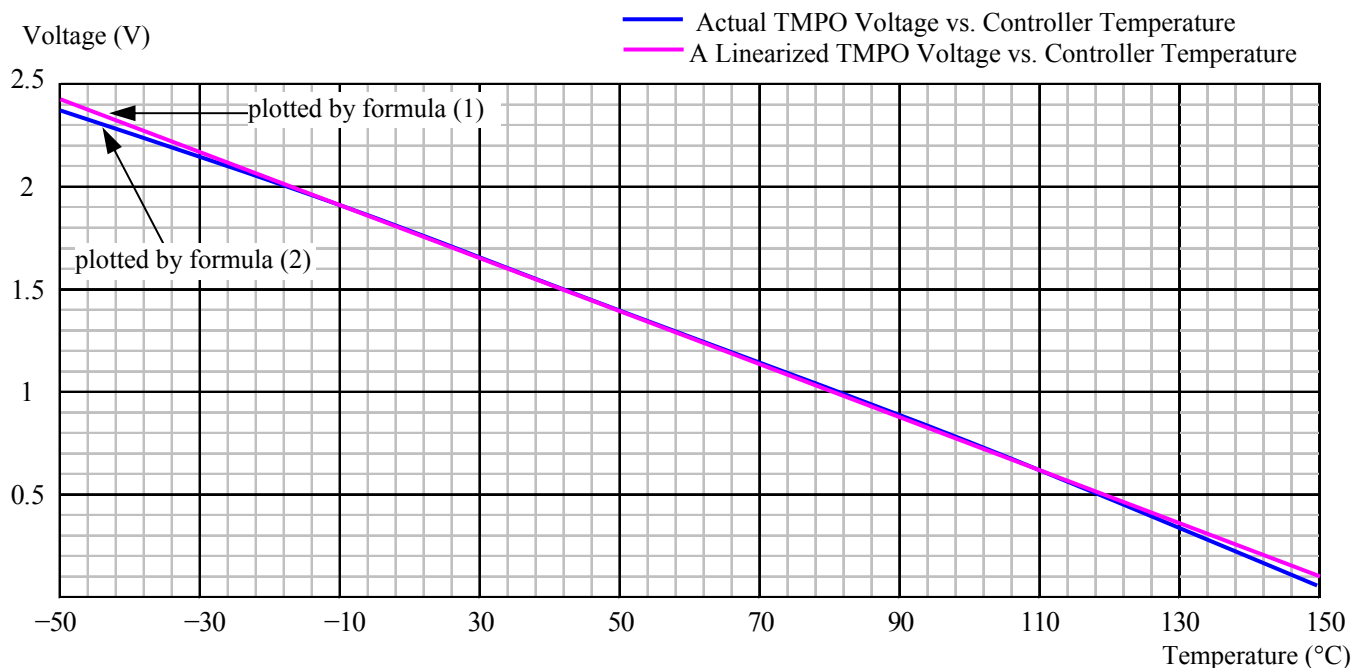

Figure 15. Controller Internal Temperature vs. TMPO Voltage
Within the most commonly used temperature range of between $0^{\circ}C$ to $100^{\circ}C$, the maximum error occurs at about 1.5V, at which the temperature error between the calculated data by using the formula (1) and the approximated data obtained by using the linear equation (2) is about $0.4^{\circ}C$, with the linear data being a little lower. The curves of the 2 sets of the data are plotted in Figure 15.